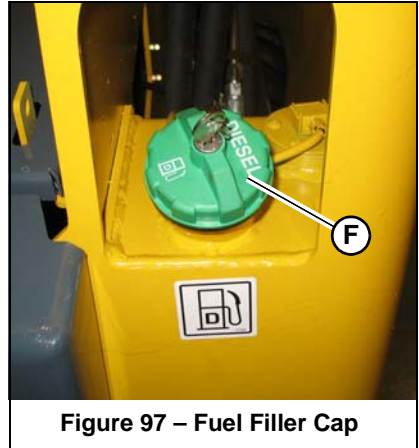

Figure 97 – Fuel Filler Cap
3. Using the ignition key to unlock fuel cap (F, Figure 97) and remove the fuel cap from the fuel filler neck.